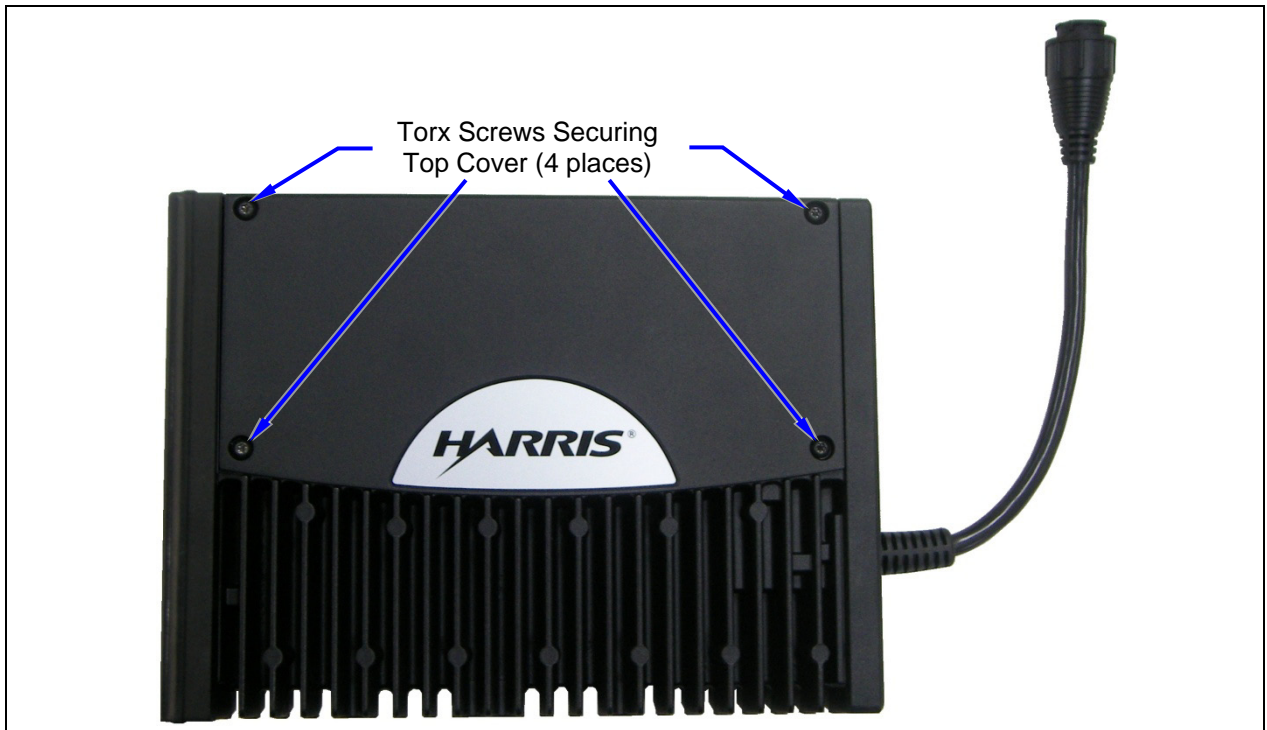
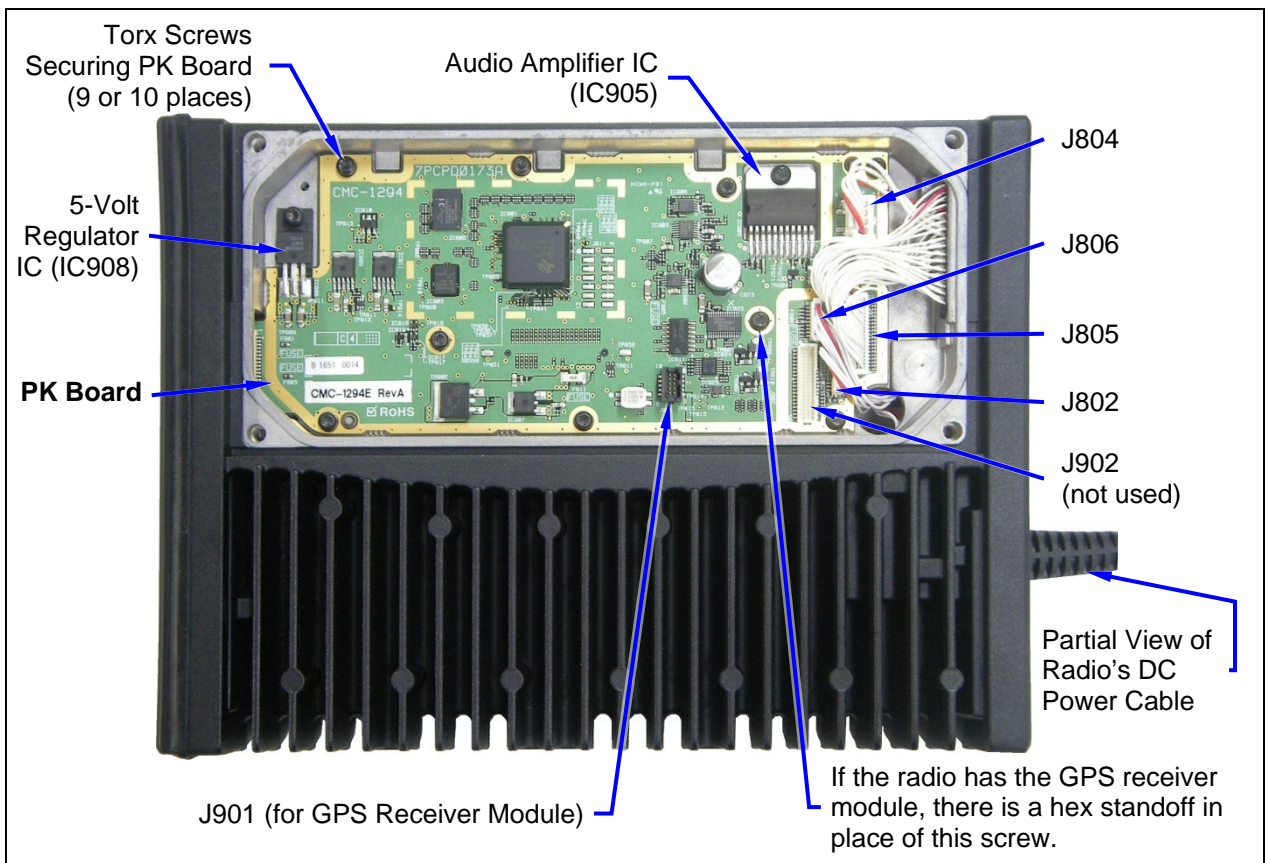

Figure 12-1: Removing the Top Cover
Figure 12-2: PK Board Removal
1. Lay the radio on a flat ESD-safe surface, in a top-up position. See Figure 12-1.
2. Using a T15 Torx screwdriver, loosen the four (4) screws securing the top cover to the radio. These are captive-type screws, so complete removal from the cover is not required.
4. Unplug the cables mated to connectors J802, J804, J805, and J806 of the PK Board. See Figure 12-2.
5. If the radio is equipped with the optional GPS receiver module, loosen and remove the screw that secures the module, then lift it up to unplug it from connector J901 of the PK Board. The module is not shown in Figure 12-2.
6. Using a T10 Torx screwdriver, loosen and remove the two (2) screws securing the audio amplifier IC (IC905) and the 5-volt regulator IC (IC908) to the radio chassis.
7. Using a T10 Torx screwdriver, loosen and remove the ten (10) screws securing the PK Board to the radio chassis. If the radio is equipped with the optional GPS receiver module, there are nine (9) screws and one (1) hex standoff which must be removed; in this case, also loosen and remove this stand-off.
7. Using a T10 Torx bit and a torque driver, torque the two (2) screws nearest to the center of the board first, and then torque the remaining eight (8) screws around the perimeter of the board. Torque all ten (10) screws to 7.4 inch-pounds (8.5 kg/cm).
8. Torque the two (2) screws securing the ICs to the chassis to 7.4 inch-pounds (8.5 kg/cm).
9. At the rear of the radio, mate the four cables to the corresponding header connectors on the PK Board. Refer to Figure 12-2 as necessary.
12. Using a T15 bit and torque driver, tighten the cover's four (4) screws to 10.4 inch-pounds (12 kg/cm). Use an "X" pattern torque pattern sequence.